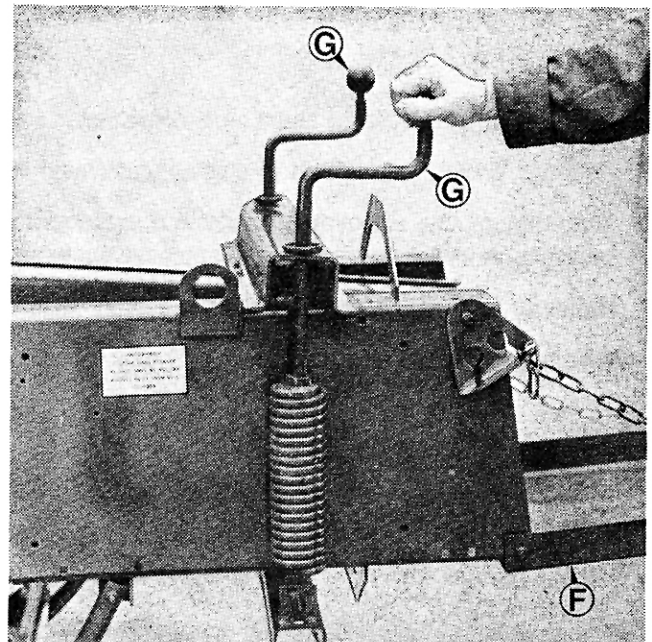

Figure 18
6. Lower bale chute F (Fig. 18).
7. Adjust bale tension cranks G (Fig. 18) so that approximately 150 mm (6") of thread is exposed.